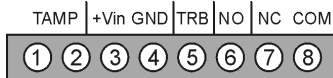

Figure 2: Wiring Connections
3. Connect the wires to the terminal block as shown in Figure 2.